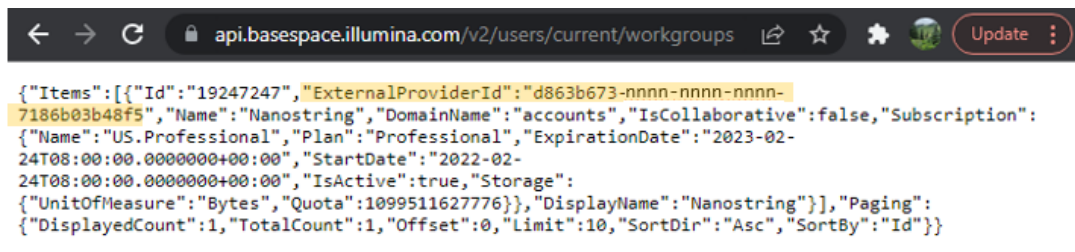

Figure 38: ExternalProviderID
- A list of workgroups will load. Identify the workgroup to which you wish to connect (**must be the same workgroup as selected in Step 6, above**) and note the ExternalProviderId (Figure 38). Enter this alphanumeric code in the BaseSpace Workgroup ID field of the GeoMx DSP Control Center.